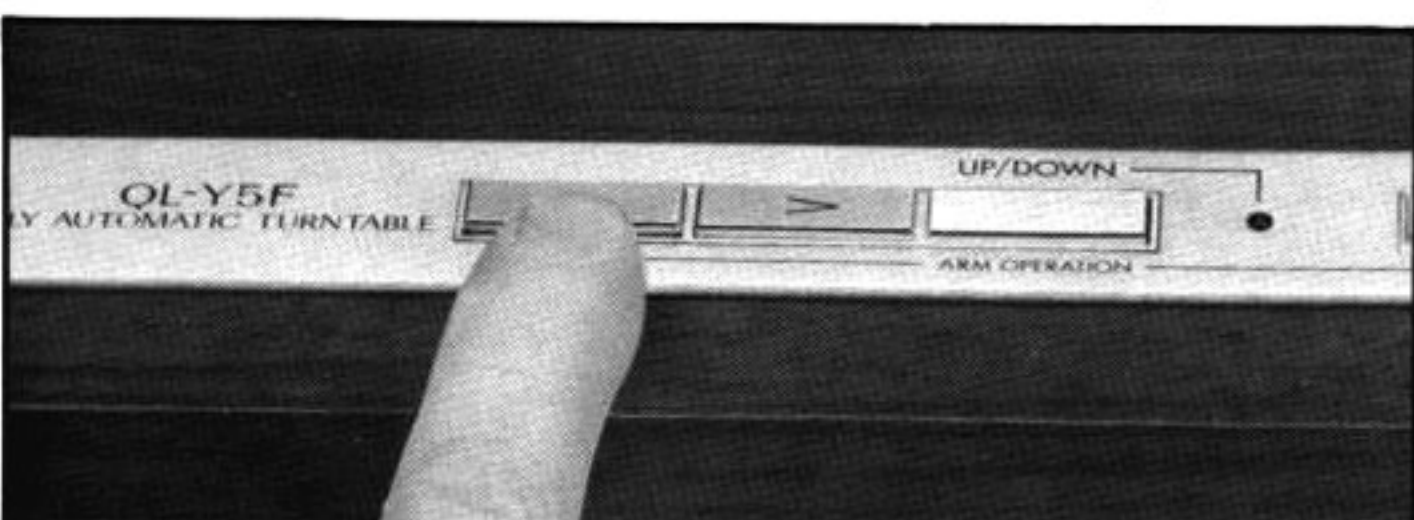

Fig. 25 Abb. 25
- Press the "<" (left) button of the tonearm transport switch until the tonearm is at the desired position, release it and tonearm travel stops. Next, press the UP/DOWN switch so that the tonearm lowers gently to the surface of the record. Record play will begin. (Fig. 25)